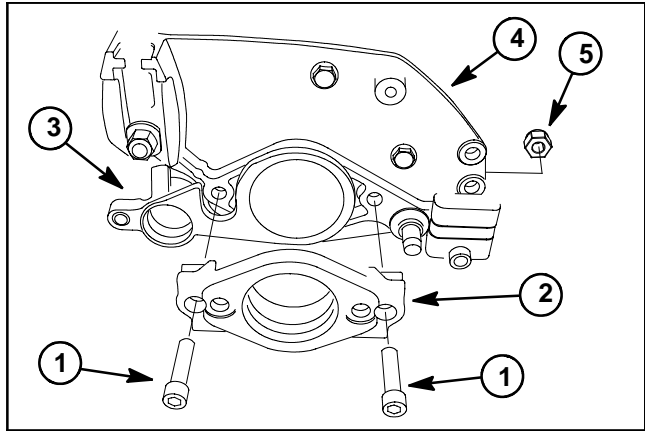

Figure 18
4. To remove support plate assembly from left side of cutting unit (Fig. 18):
A. Remove two (2) socket head screws and lock nuts that secure motor mount to cutting unit (Fig. 18). Remove motor mount from cutting unit.
- D. Position motor mount to groomer support plate (Fig. 18). Secure motor mount and support plate to cutting unit with two (2) socket head screws and lock nuts.